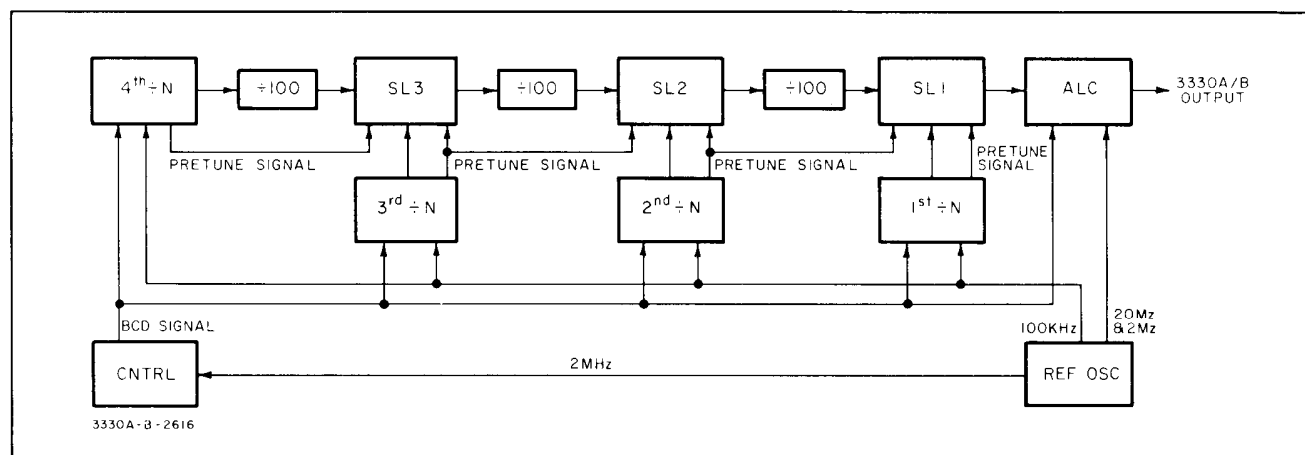

Figure 4-3. Basic Block Diagram.
4-12. The frequency generation section of the 3330A/B is composed of four phase-locked divide ( $\div N$ ) loops and three phase-locked summation (SL) loops (see Figure 4-3). The output frequency is variable from 20,000,000.0 Hz to 33,000,999.9 Hz. The digits of the output frequency are controlled by the  $\div N$  loops and effectively summed in the
**4-16. SL Loop.** Each of the three SL loops consists basically of a divide-by-100 circuit ( $\div$  100), a Phase Monitor, a Phase Detector, a Summing Amplifier, a VTO and a Mixer (see Figure 4-5). There are two pretune signals for each SL loop VTO. These signals are the analog signals from the  $\div$  N loop D/A that sets the  $\div$  N loop VTO (see Figures 4-3 and 4-4). The two pretune signals for the SL3 loop are from 4th  $\div$  N loop D/A and the 3rd  $\div$  N loop D/A. The two pretune signals for the SL2 loop are from the 3rd  $\div$  N loop and the 2nd  $\div$  N loop. The two pretune signals for the SL1 loop are from the 2nd  $\div$  N loop and the 1st  $\div$  N loop. These pretune signals set the SL loop VTOs within approximately 100 kHz of the desired frequency.